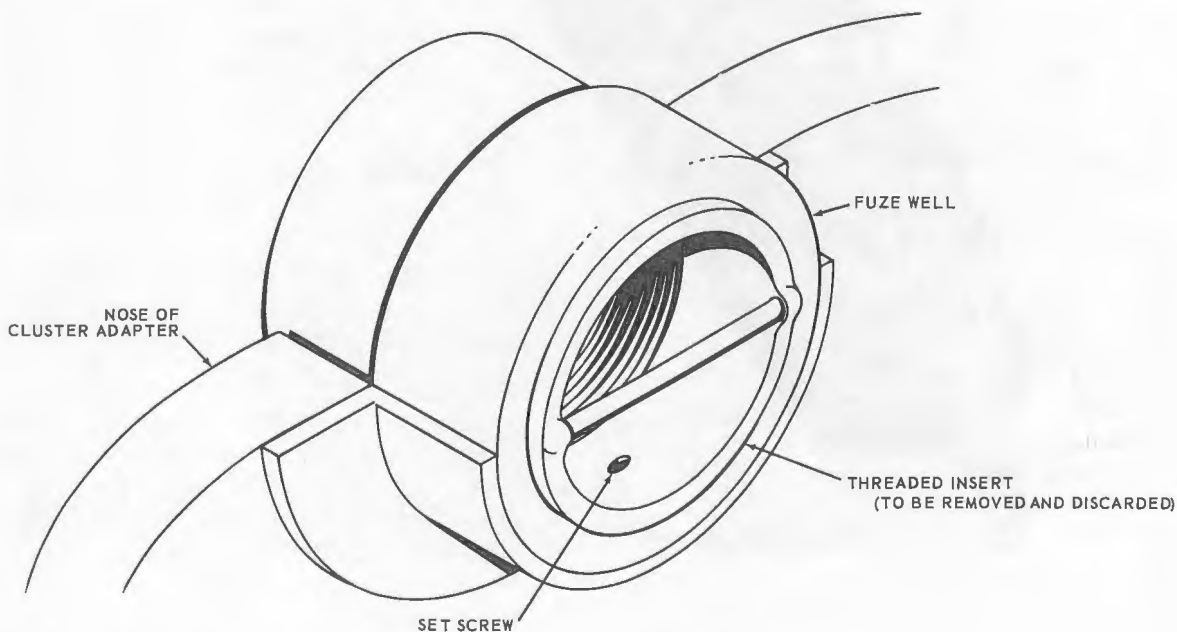

Figure 8-19. Threaded Fuze Well.
6. Loosen the set-screw and unscrew the threaded insert located at the back or inside end of the fuze well and discard. (Note: With the cover open, both ends of the threaded fuze well are visible.) Failure to REMOVE and DISCARD THIS THREADED INSERT will result in premature opening of the munition immediately after release from the bomb rack during flight. (See figure 8-19.)